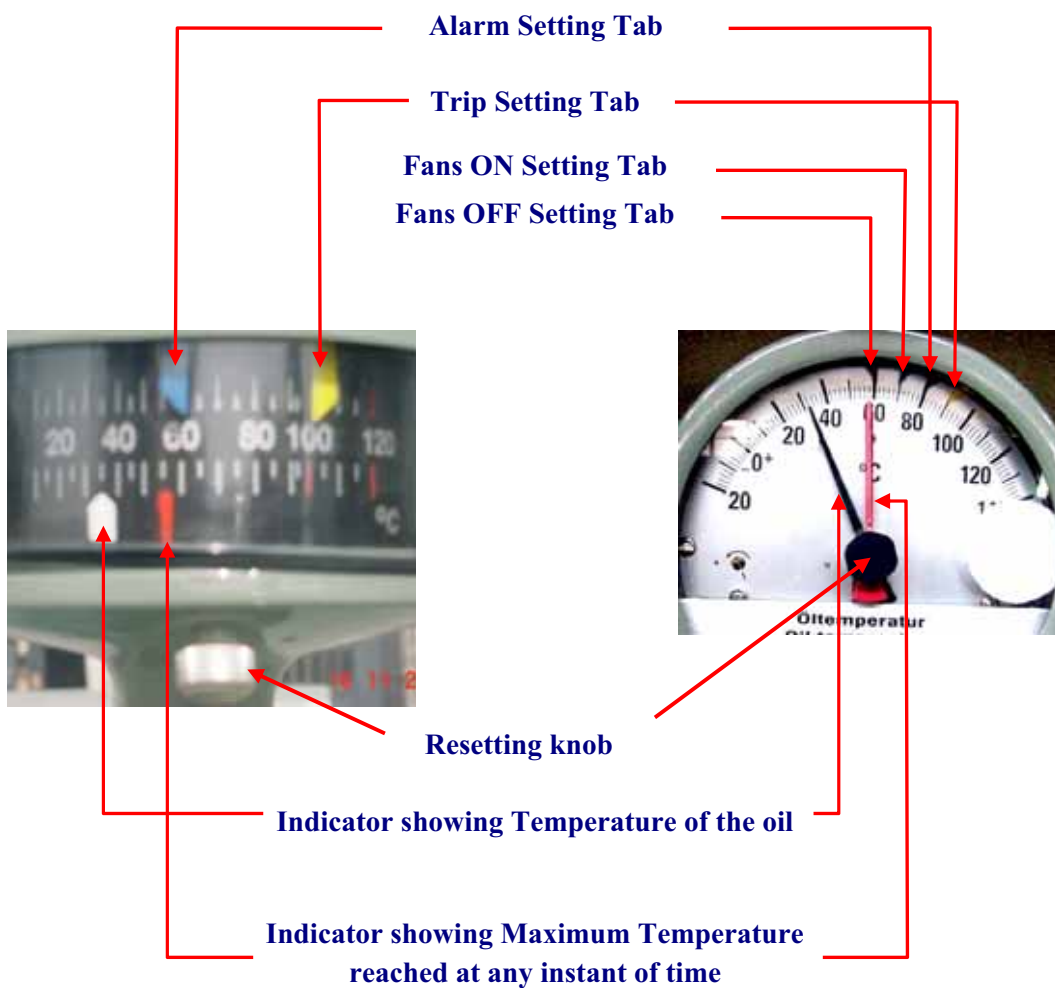

Figure 4 : Different types of Oil Temperature Indicators
Temperature indicators can be checked for the proper functionality of their contacts (see Figure 4).
- The maximum temperature knob can be rest at any time via a knob available on the indicator (see Figure 4)